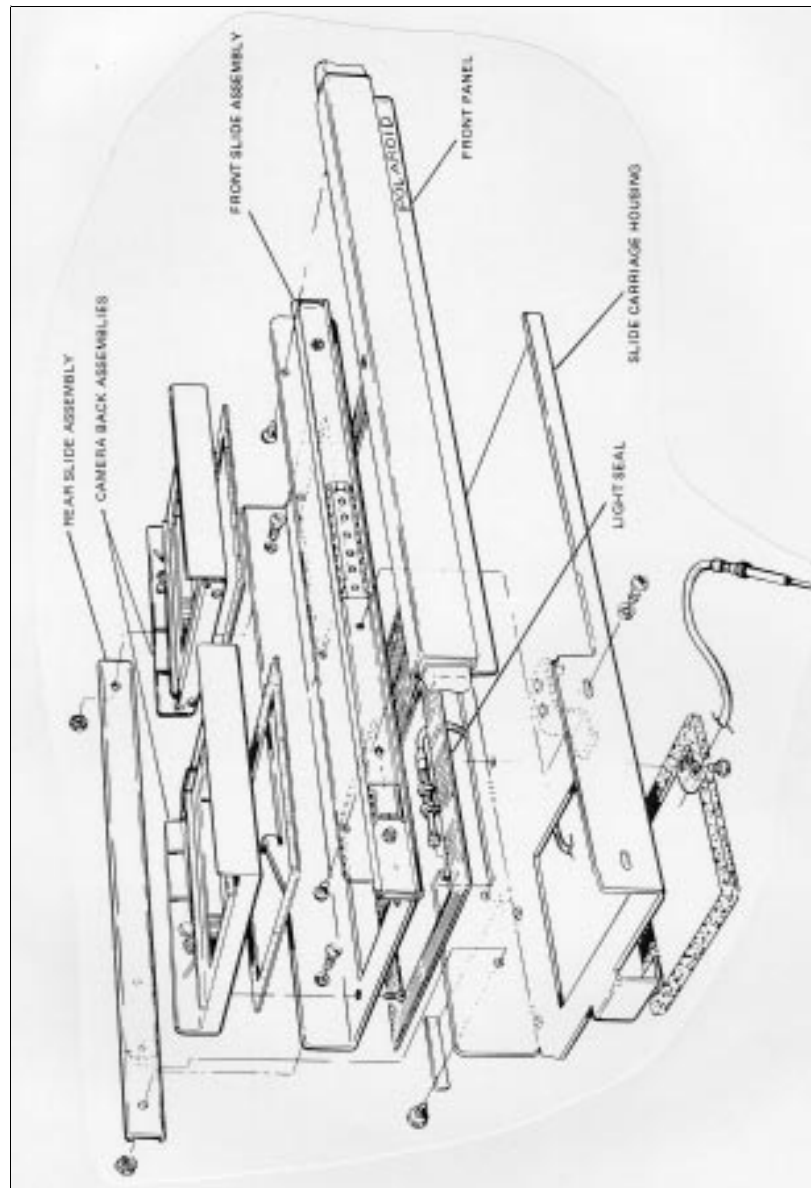

Figure 5-16. Sliding Head Camera Back
1. Disassembly/Reassembly of Sliding Head Camera Back (figure 5-16)